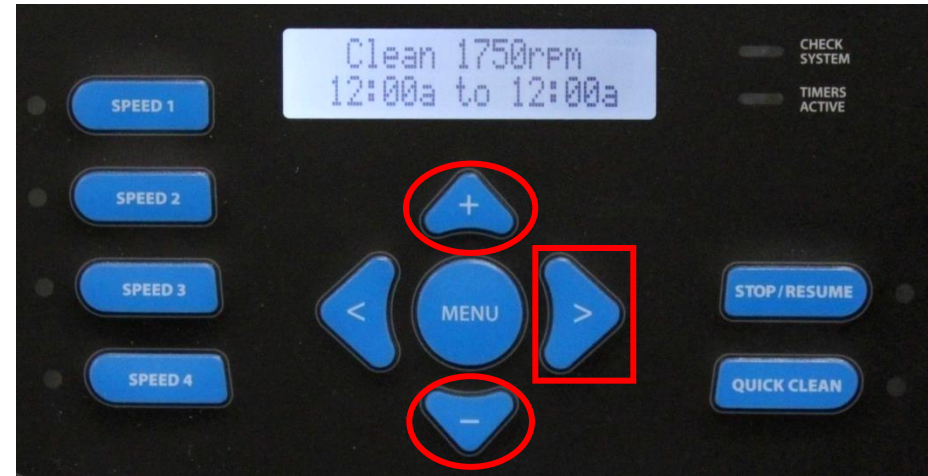

Figure 47
- This screen will allow you to change the start and stop time for the specific timer. Start time will be blinking, press the **+** & **-** buttons to change. Press the **>** button to change the stop time, also using the **+** & **-** buttons (fig 47). Press the **>** button to continue.